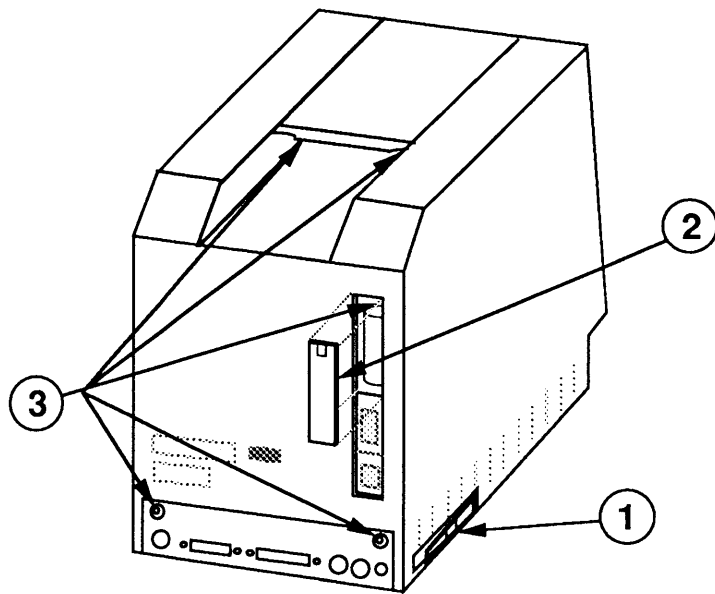

FIGURE 1
3. Remove the reset/interrupt switch (if installed) by prying it off with a small flat-blade screwdriver (Figure 1, #1).
4. Press down the tab at the top of the battery compartment cover (Figure 1, #2), and pull the tab toward you.
6. Use a Torx screwdriver to remove the five screws (Figure 1, #3).